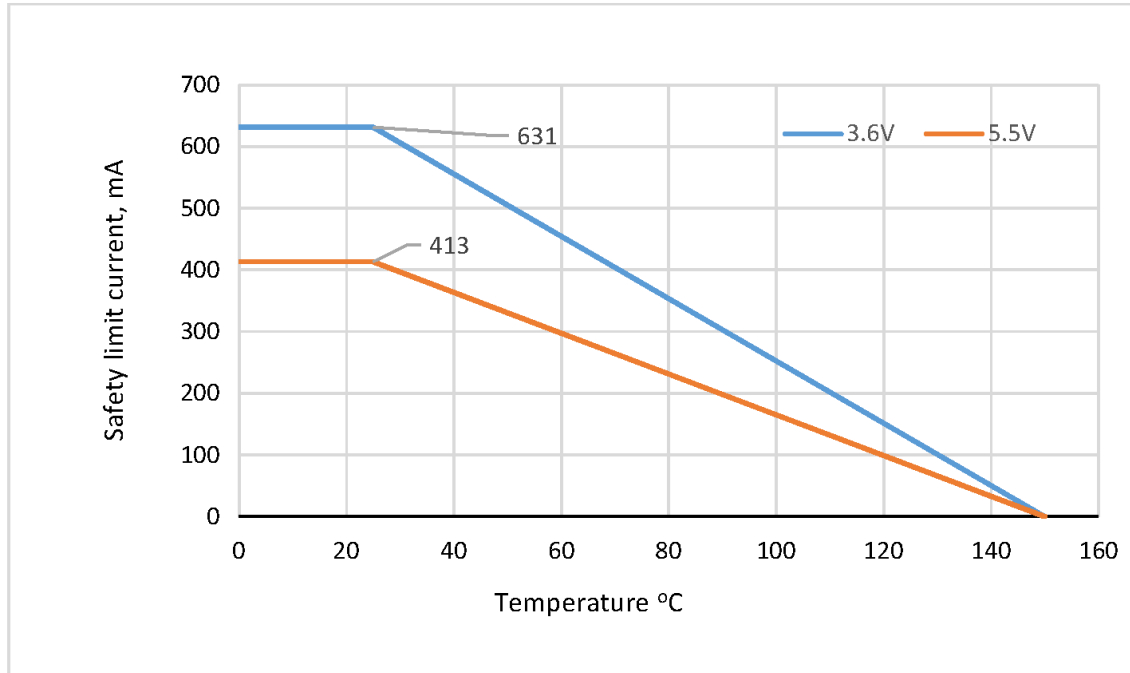

Figure 4.5. WB SOIC-16/20 Thermal Derating Curve Dependence of Safety Limiting Values per VDE 0884-10
1. Maximum value allowed in the event of a failure. Refer to the thermal derating curve in Figure 4.5 WB SOIC-16/20 Thermal Derating Curve Dependence of Safety Limiting Values per VDE 0884-10 on page 28.